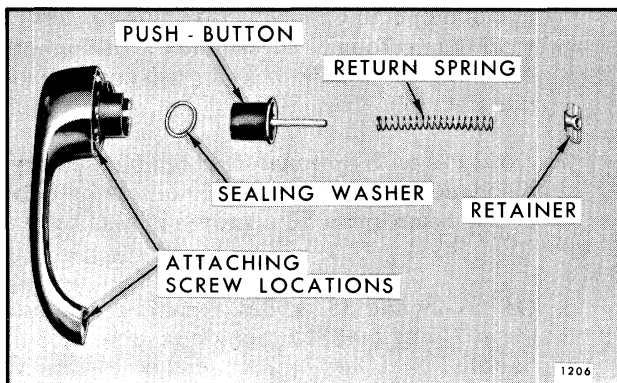

Fig. 5-34 Outside Push-Button Handle Disassembly
2. Depress retainer slightly and rotate 1/4 turn in either direction. Remove retainer, spring, push button and shaft and sealing washer from handle (refer to Fig. 5-34).
NOTE: "B and C" style rear door handle push buttons, springs and retainers are serviced as an assembly. The die cast handle is serviced separately. Front door handle components are serviced separately as shown in Figure 5-34. Lift-bar and pull-out handles are serviced as an assembly.